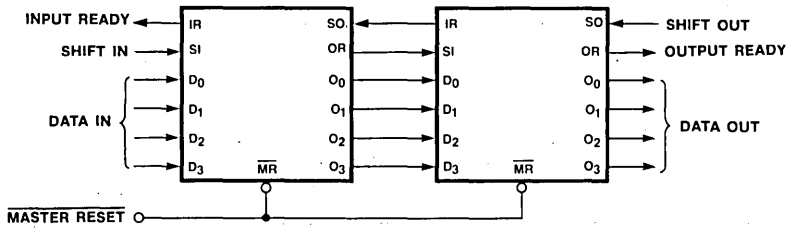

Figure 11. Cascading FIFOs to Form 128x4 FIFO with C5/C67401A/1
After power up the Master Reset is pulsed low (Fig. 11) to prepare the FIFO to accept data in the first location. When Input Ready (IR) is HIGH the location is ready to accept data from the  $D_x$  inputs. Data then present at the data inputs is entered into the first location when the Shift In (SI) is brought HIGH. A SI HIGH signal causes the IR to go LOW. Data remains at the first location until SI is brought LOW. When SI is brought LOW and the FIFO is not full, IR will go HIGH, indicating that more room is available. Simultaneously, data will propagate to the second location and continue shifting until it reaches the output stage or a full location. The first word is present at the outputs before a shift out is applied. If the memory is full, IR will remain LOW.